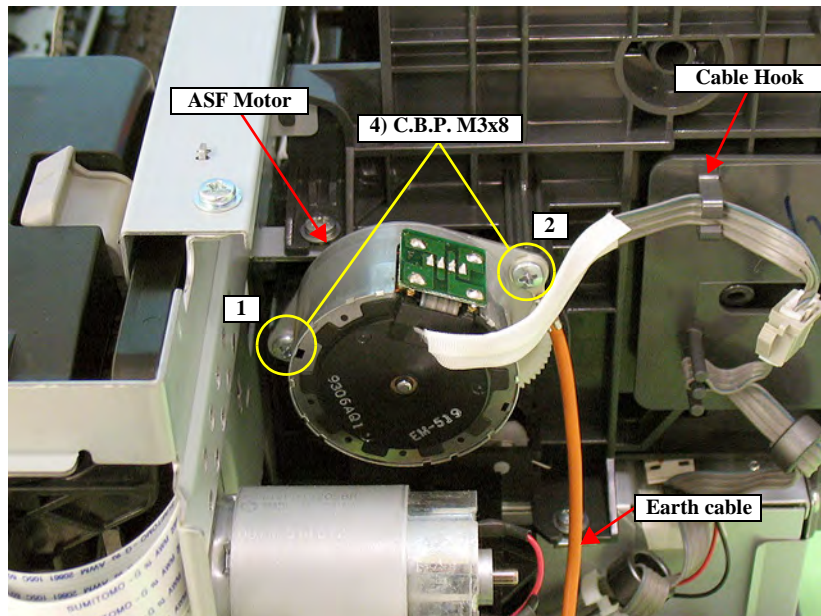

Figure 4-154. Removing the ASF Motor
- Tighten the screws in the order shown in Figure 4-154